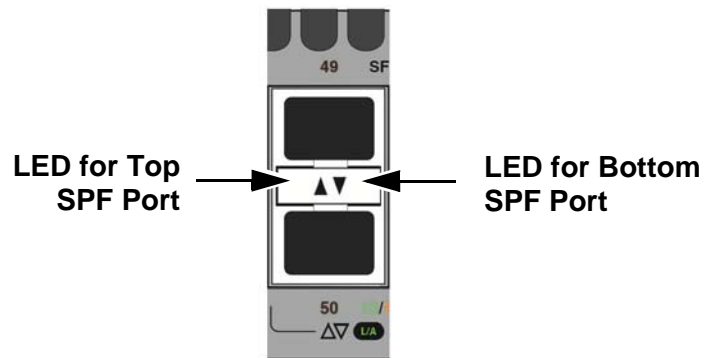

Figure 6. SFP Transceiver Port LEDs
**LEDs** Each transceiver port has one LED. Refer to Figure 6.